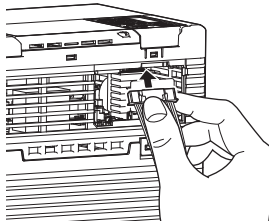

Figure 12 Plugging the Option Connection Cable into the Drive (PS-V10M)
2. Next, plug the supplied 24 V Power Supply Option connection cable into the drive cable socket and click firmly into position as shown in **Figure 12**.